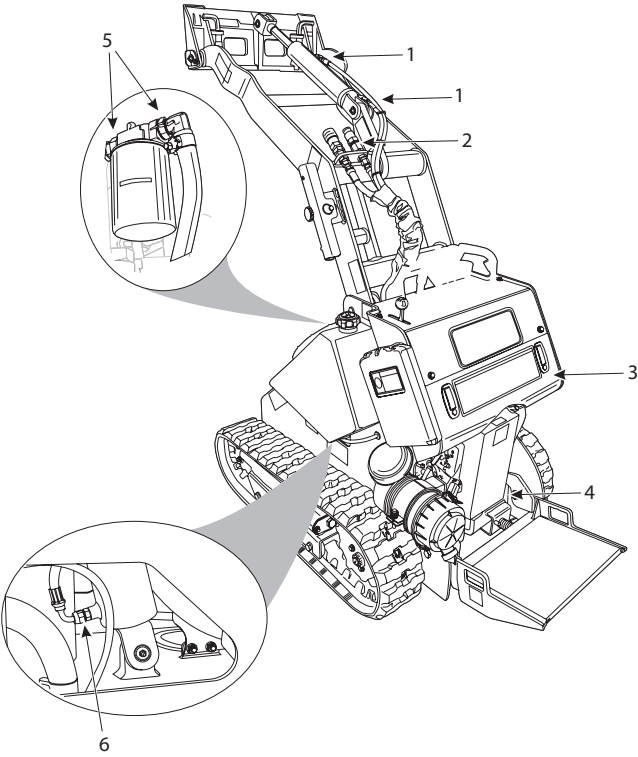

Figure 4-9 Inspect Hydraulic Lines and Fittings
- f. Follow all of the hoses, line and tubes from the control valve to their end (Items 1, 2, 4, 5, and 6, **Figure 4-9**). Inspect the connections and look for signs of leaking hydraulic fluid, wear or damage.
- g. Carefully inspect both sets of quick couples (Item 2, **Figure 4-9**) to make sure that they are not damaged or leaking. Make sure to check for signs of leakage or damage to the drive motors and to their hydraulic connections.
Many of the fittings and lines on this machine are contained within the body of the machine. With the engine off, carefully inspect all of the lines and fittings leading to the hydraulic pumps, the hydraulic filter assembly (Item 5, **Figure 4-9**), the base of the boom lift cylinder (Item 6, **Figure 4-9**), etc.